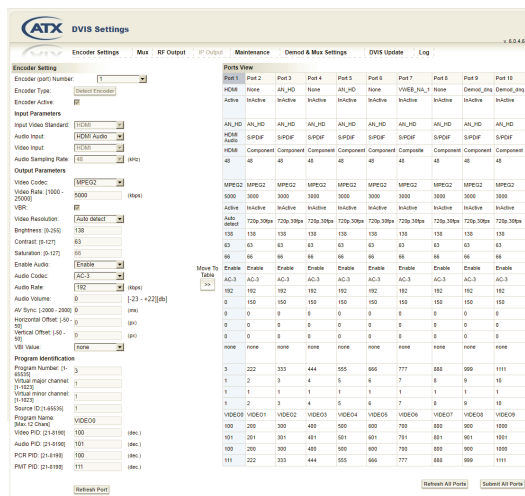

Figure 5-5: Default DVIS Page
5. Once logged in you receive the default DVIS Device Settings page, shown in Figure 5-5.: